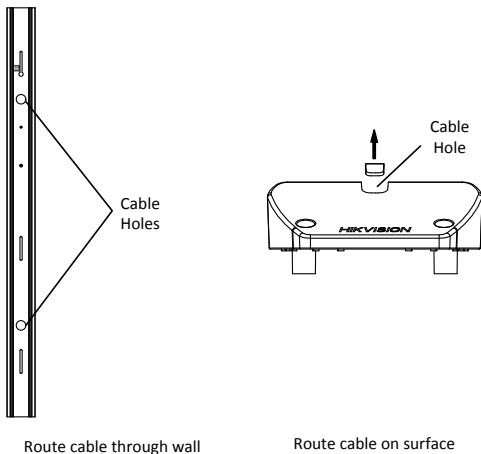

Figure 2-17 Plan Cable Routing
- 1). If you choose to route cable through wall, drill a cable hole according to the size and height of cable hole on the base. See Figure 2-17.
- 2). If you choose to route cable on surface, make a cable hole on the top or bottom cover. See Figure 2-17.